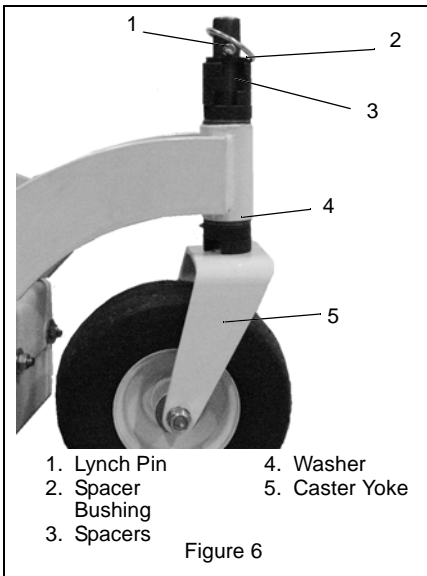

Figure 6
IMPORTANT: Do not allow washer (item 4 in Figure 6) to sit on caster yoke (item 5 in Figure 6). It must be on top of height-of-cut spacer bushings (item 3 in Figure 6).